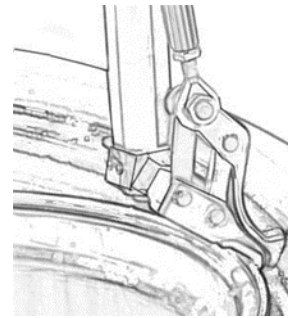

Fig 22
- a) Flick the switch valve to return the automatic mount/demount head to its resting position (**Fig 22**). Put the tire on the rim slightly tilted, and place the bead's another edge above the back of the mount/demount head and the other below the front of the mount/demount head. Press the tire with your hand or the assist arm's tire pressing roller and rotate the turntable to mount the lower bead.